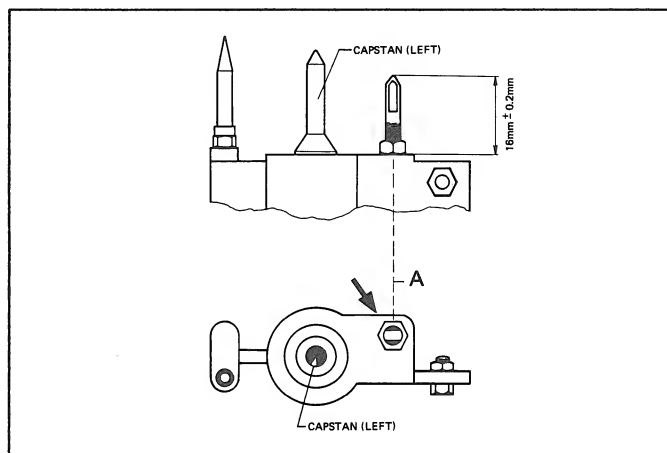

Fig. 3.2
- The millings [A] should be aligned horizontally (Fig. 3.2)